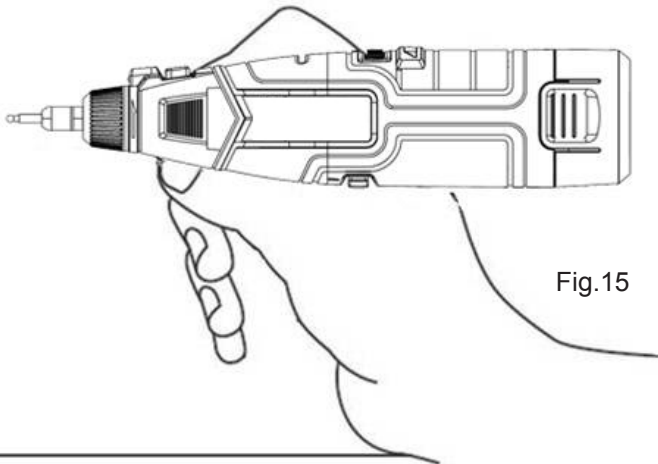

Fig.15
- (1) For fine work, such as engraving, hold the rotary tool like a pen and guide it lightly across the workpiece. Do not apply excess pressure. Working this way gives the best control and reduces the potential for error (Fig. 15).